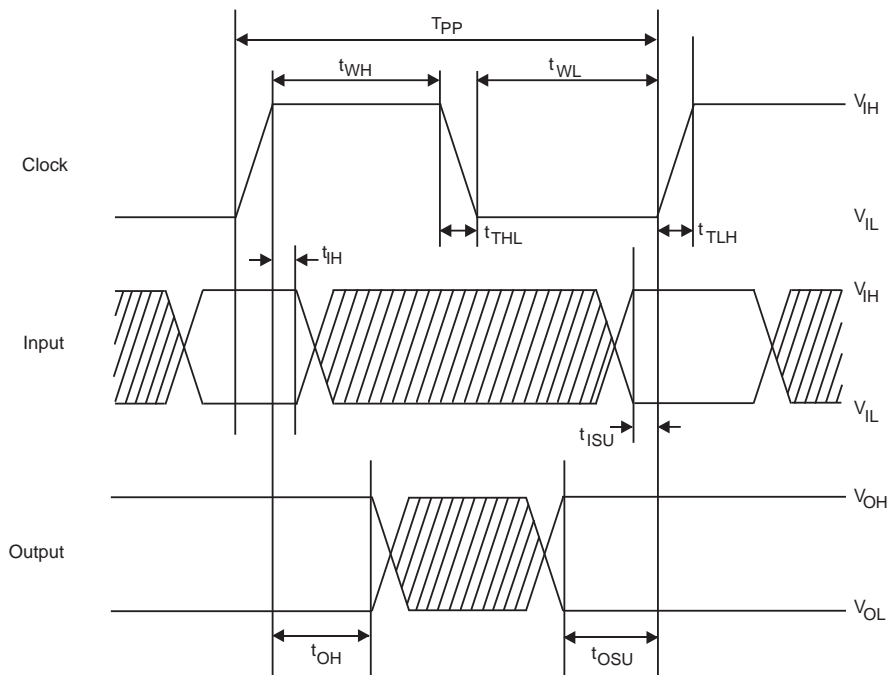

Figure 3-5. Timing Diagram Data Input/Output Referenced to Clock
SPI Mode bus operating conditions are identical to MultiMediaCard mode bus operating conditions. The chip select (CS) signal timing is identical to the input signal timing (see Figure 3-5).